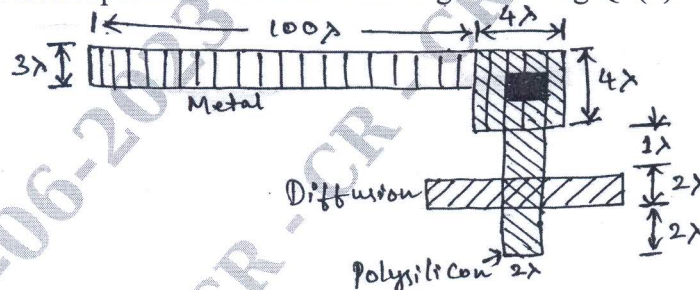

Fig.Q4(b)
- b. Calculate the total area capacitance for the structure given in Fig.Q4(b).